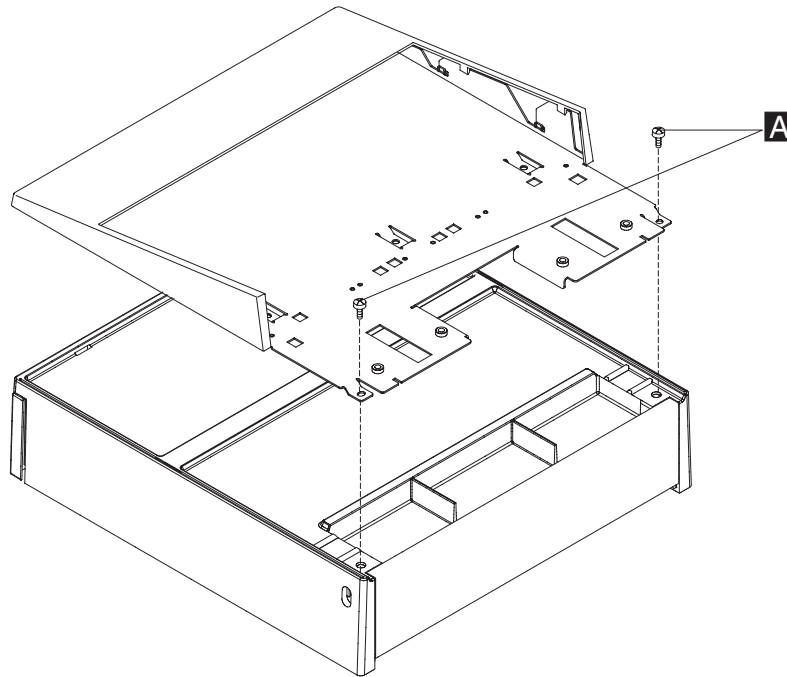

Figure 49. Attaching the integration tray to cash drawer
- b. Attach the cash drawer integration tray to the cash drawer by tightening two M6x8 screws **A** at the rear of tray, as shown in Figure 49.